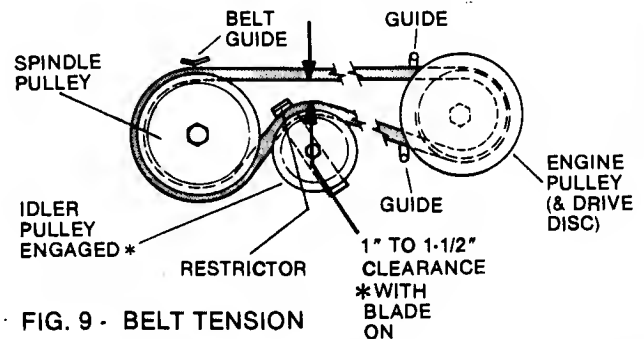

FIG. 9 - BELT TENSION
With the mower deck in the #5 height position and the blade in the ON position, check the distance between the inside surfaces of the belt as shown in FIG. 9 - the clearance should be from 1" to 1-1/2". The belt tension is adjusted by changing the "distance" between the main tube's vertical bracket (X) and the **FRONT** of the rear case. Remove the shoulder bolt (Y) from above the main tube and pull the front assembly **FORWARD**, increasing the belt tension until the correct amount is achieved. Remove one or more spacers as needed, from in front of the vertical bracket and move to the backside (between the bracket and the case). Then reinstall and securely tighten the shoulder bolt (Y).
If the belt becomes frayed, cracked, or worn, replace it as follows: Remove the **BELT COVER**, then cut and remove the old belt. To install a new belt, close the fuel cap (10-C) valve. Stand the mower on the **REAR BUMPER (14-C)**, shift into **NEUTRAL**, and work the belt between discs, then shift into #5 speed and push belt over edge of engine drive disc. Work belt into the groove of the drive disc, then position other end in pulleys on mower deck as follows: Loosen or remove the idler pulley, loop the belt around spindle pulley as shown in FIG. 9 and work belt between restrictor and idler pulley.